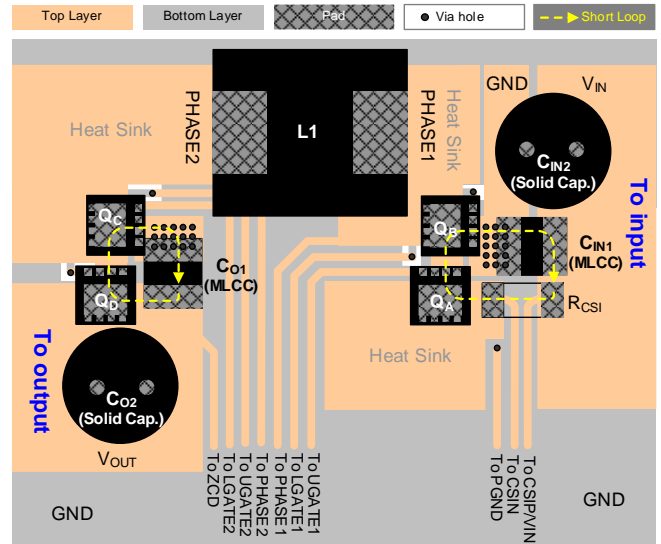

Figure 6. Recommended PCB Layout of the Power Stage
- ▶ Figure 6 is a recommended placement of the PWM Buck power-stage. A critical loop “from C_{IN1} → R_{CS1} → Q_A → Q_B to C_{IN1}” and “from C_{O1} → Q_D → Q_C to C_{O1}” must be as short as possible to minimize the switching noise at CSIP/V_{IN}, CSIN, PHASE1, PHASE2 and ZCD pins. The shorter paths also help to reduce radiated EMI. It is necessary to use an MLCC (10μF/50V, X5R/X7R) for the input capacitor (C_{IN1}) and output capacitor